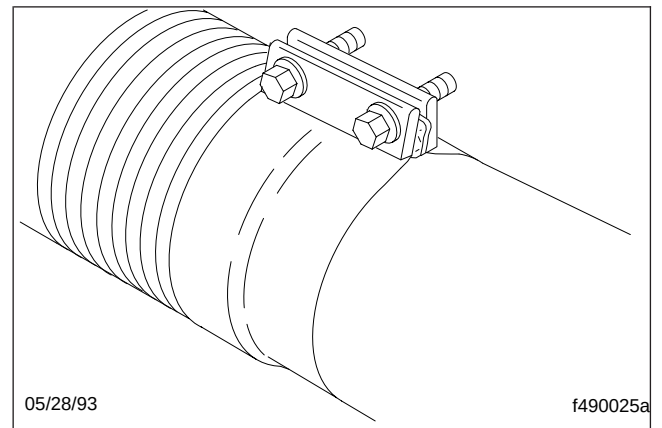
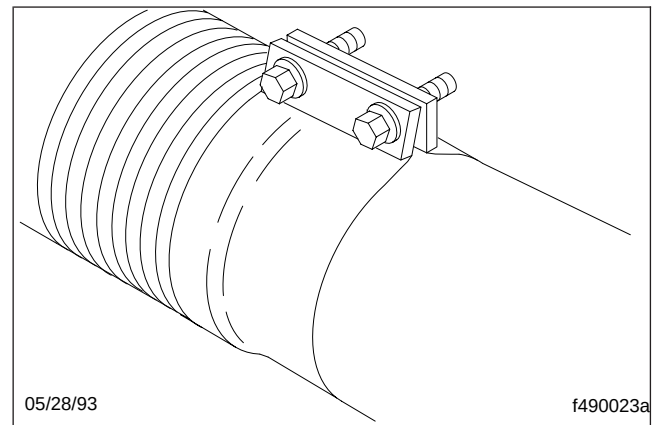
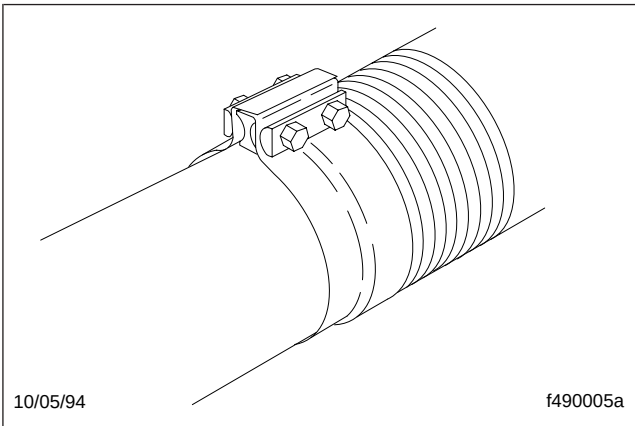

Fig. 2, Donaldson Seal Clamp Wide-Band Exhaust Clamp
Fig. 3, Riker Tru-Seal Wide-Band Exhaust Clamp
Fig. 4, Torca Torctite Wide-Band Exhaust Clamp
7. Check for leakage at all wide-band exhaust clamps. See Fig. 2, Fig. 3, or Fig. 4.